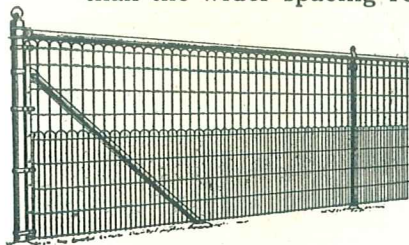
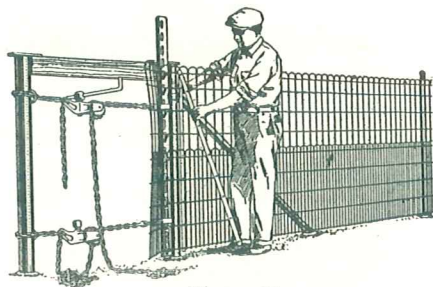

Figure 12
Figure 14
manence the line posts should be set in concrete—just like terminal posts—if this is at all possible. Where there is to be a top rail these end, corner and gate posts must also be set with their tops 4 inches higher than the line posts to take the top rail end-clamp fittings (see Figure 12).
**Top rail:** Top rail sleeves and special post-top fittings are available with tubular top rail. Installation is accomplished as indicated in Figure 12. Complete all framework before you begin to stretch the fence.
**Starting lawn fence:** Figures 12 and 13 show two methods of attaching lawn fence to the starting post. We recommend the method shown in Figure 12 because it is neater looking and much easier to manage. Simply slip the two tension bars over the fence (see Figure 14), and clamp them firmly close to the post. Now put
**Stretching lawn fence:** A double-jack stretcher (see Figures 14 and 15) is most satisfactory for stretching lawn fence, which has to be pulled so thoroughly and evenly taut that a single-jack or any light stretcher cannot do the job.
The actual stretching of lawn fence is done just as in the case of farm fence — *except in one important particular*: lawn fence may be stretched to a point *past* the terminal post (see Figures 14 and 15), since it does not have to be cut for tying. Set up your temporary stretching post just as you would for farm fence, but clamp your stretcher bar on the fence between this post and the terminal post instead of between the terminal post and the last line post as you would in stretching farm fence.